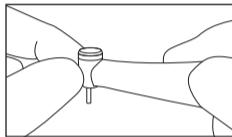

Fig. 5
- 5 After the handpiece rotation has completely stopped, touch the handpiece head to confirm the head is NOT heating abnormally (Fig. 5).